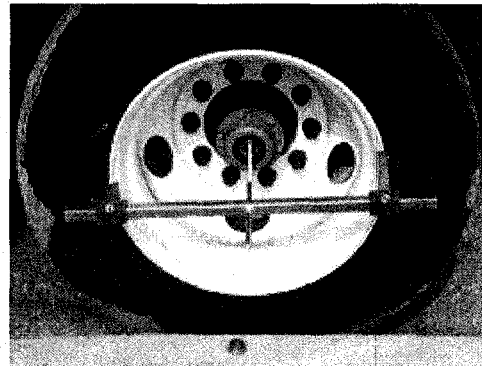

Figure 21: Installed wheel-end extender
3. Following the manufacturer's recommended instructions, install wheel-end extenders on each end of the front axle (Figure 21).